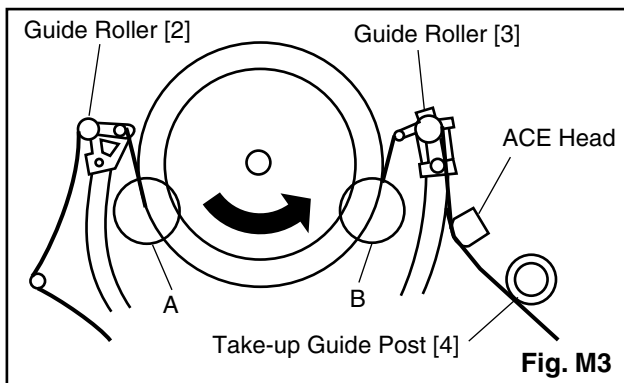

Fig. M3
1. Playback a blank cassette tape and check to see that the tape runs without creasing at Guide Rollers [2] and [3], and at points A and B on the lead surface. (Refer to Fig. M3 and M4.)
2. If creasing is apparent, align the height of the guide rollers by turning the top of Guide Rollers [2] and [3] with a Guide Roller Adj. Screwdriver. (Refer to Fig. M3 and M5.)
3. Check to see that the tape runs without creasing at Take-up Guide Post [4] or without snaking between Guide Roller [3] and ACE Head. (Fig. M3 and M5)
2. Playback the Gray Scale on the Alignment Tape (FL6NS8). Set the Tracking Control Circuit to the preset position by pressing [PROGRAM ^] button and then [▷] (VCR) button on the unit. Adjust the height of Guide Rollers [2] and [3] (Fig. M3, Page 2-3-3) watching the oscilloscope display so that the envelope becomes as flat as possible. To do this adjustment, turn the top of the Guide Roller with the Guide Roller Adj. Screwdriver.
3. If the envelope is as shown in Fig. M8, adjust the height of Guide Roller [2] (Refer to Fig. M3) so that the waveform looks like the one shown in Fig. M10.
4. If the envelope is as shown in Fig. M9, adjust the height of Guide Roller [3] (Refer to Fig. M3) so that the waveform looks like the one shown in Fig. M10.
5. When Guide Rollers [2] and [3] (Refer to Fig. M3) are aligned properly, there is no envelope drop either at the beginning or end of track as shown in Fig. M10.
Note: Upon completion of the adjustment of Guide Rollers [2] and [3] (Refer to Fig. M3), check the X Value by pushing the [PROGRAM ^] or [PROGRAM v] buttons on the unit alternately, to check the symmetry of the envelope. Check the number of pushes to ensure preset position. The number of pushes of the [PROGRAM ^] button on the unit to achieve 1/2 level of envelope should match the number of pushes of the [PROGRAM v] button on the unit from center. If required, redo the "X Value Alignment."